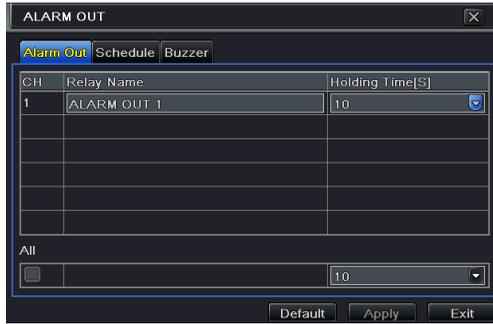

Fig 4-23 System Configuration-Alarm Out
Step 1: Enter into Menu → Setup → Alarm Out. Refer to Fig 4-23: